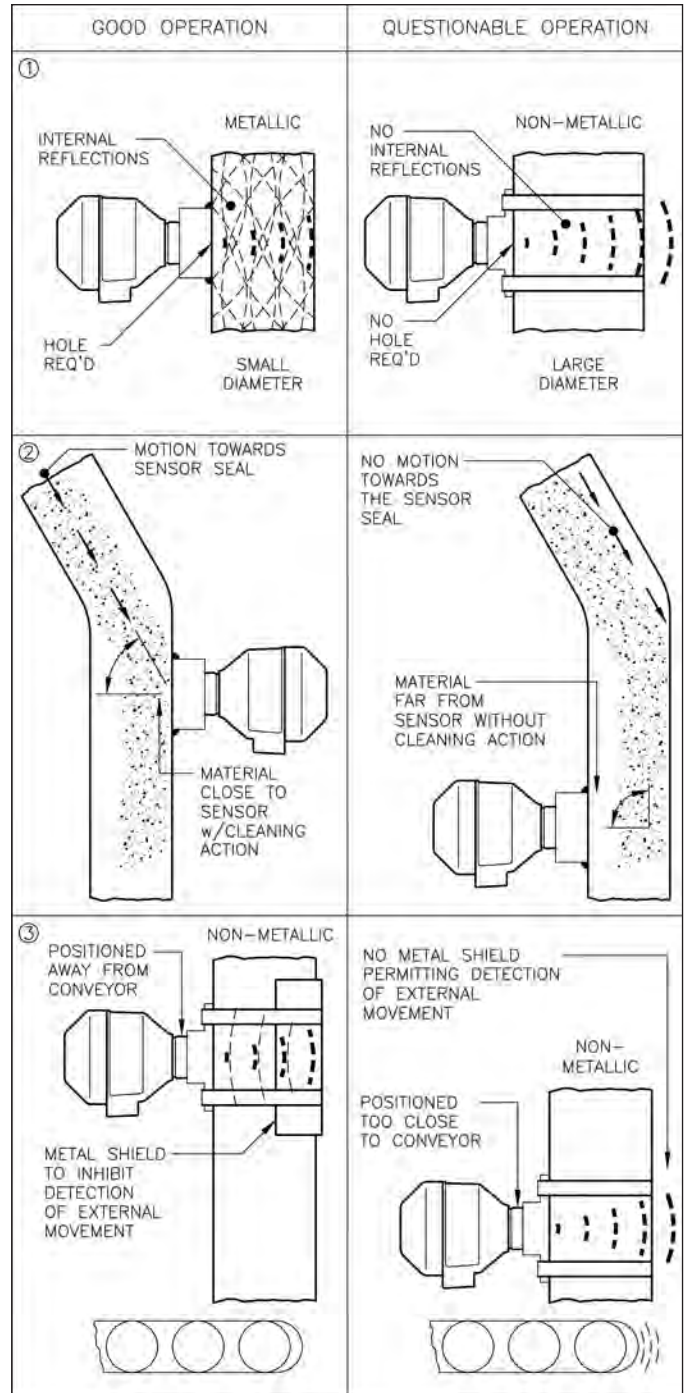

Figure 2
**CHOOSING THE SENSOR LOCATION** (See Figure 2)